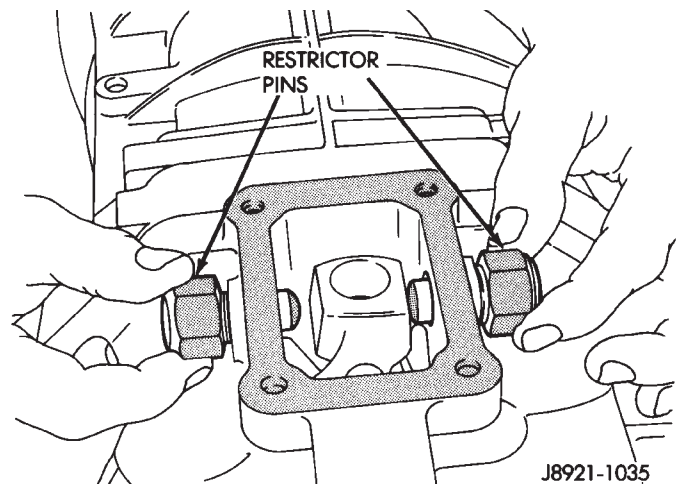

Fig. 43 Install Shifter Restrictor Pins
- (15) Install shift restrictor pins in shift tower and tighten to 27 N·m (20 ft. lbs.) (Fig. 43).